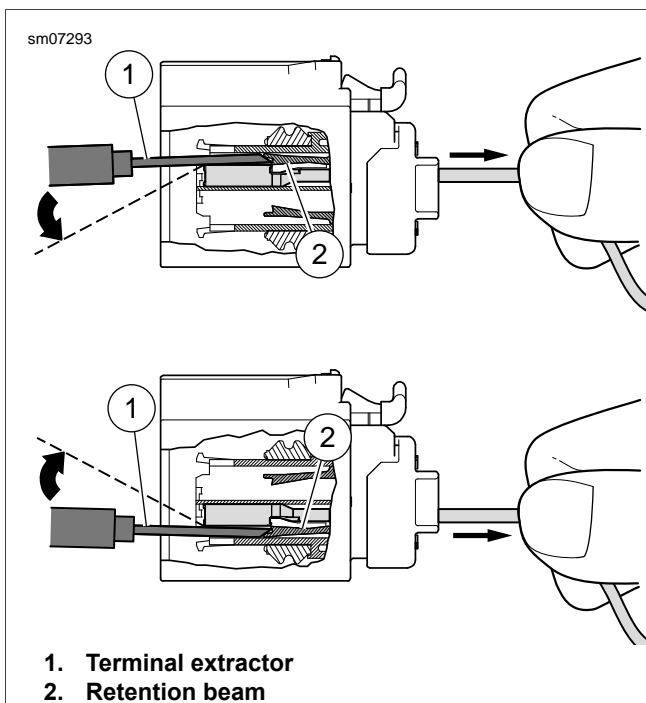

Figure A-70. Removing Terminals: Tyco GET 64 Sealed Connector
3. See Figure A-70. Orient the bevel of the TERMINAL EXTRACTOR (Part No. B-50085) (1) to the upper or lower terminal row. Insert the extractor into the slot next to the terminal.